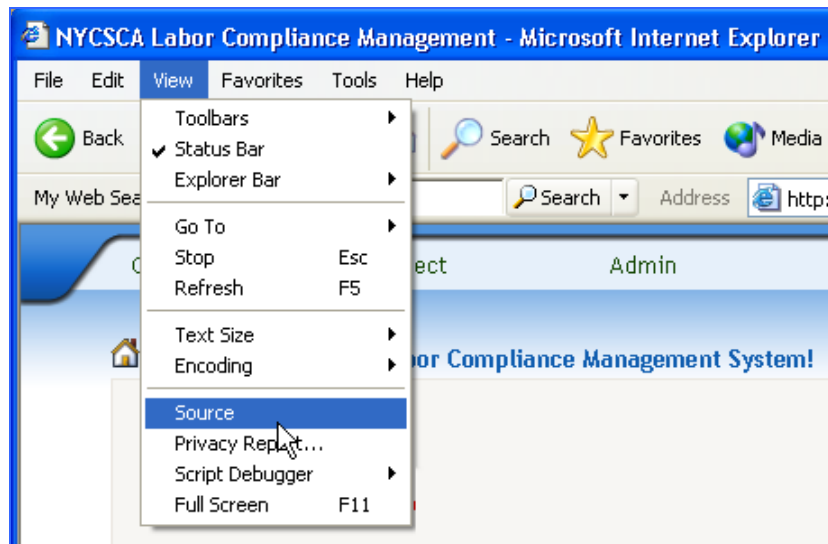

Figure 116 - View Source Menu
1. On the screen with the error, click on the View menu and select “Source” (Figure 116). This will open Notepad in a new window.